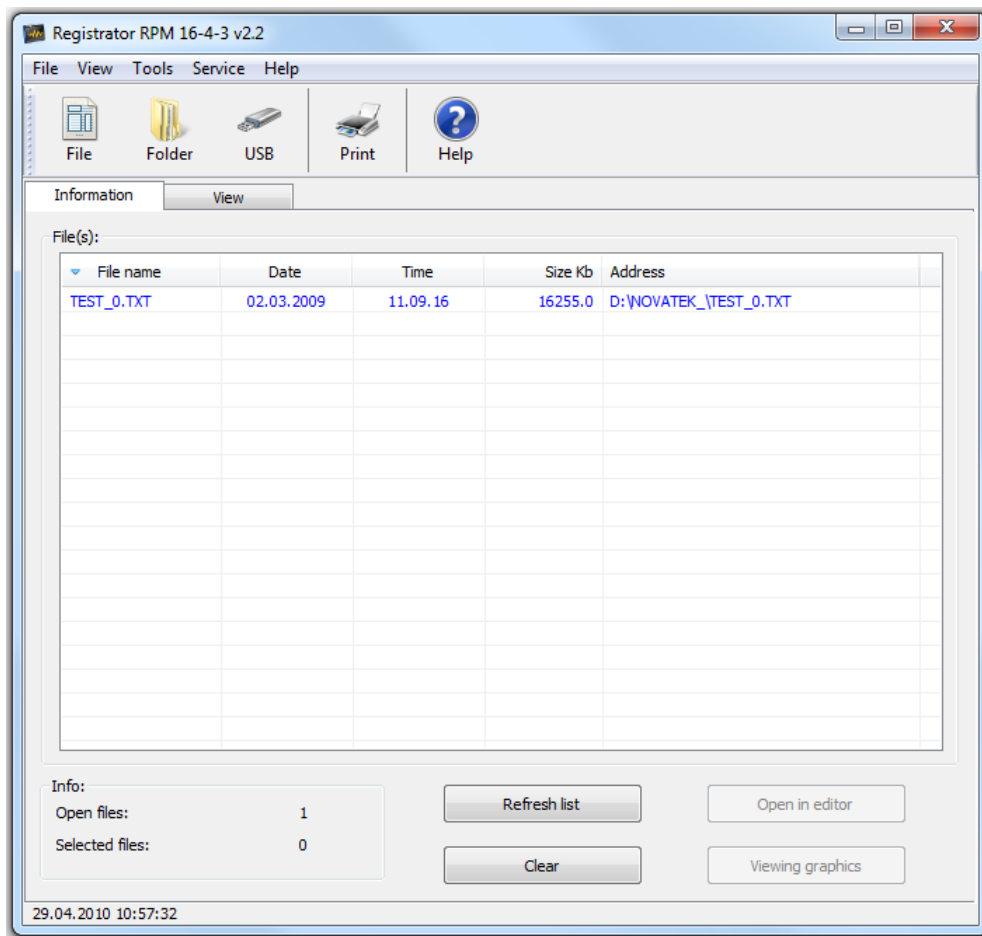

Figure A.19
A.3 Separate necessary file for displaying, the program starts to analyse it (need several seconds) After analysing the information is shown: date and time of starting recording, date and time of finishing recording and number of recorded channels (*Figure A.19*).
After pressing of this button the program analyses file and open the tabbed page in case of mistake failure. (Figure A.19).